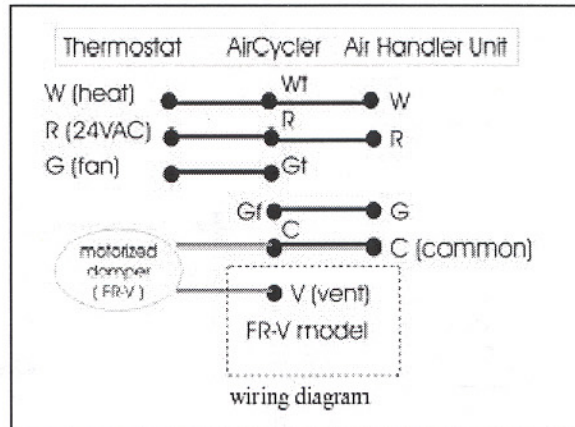

Figure 1. AirCycler™ Wiring Diagram
2. Follow the wiring diagram provided with the AirCycler™ (Figure 1). Make sure the wires to the motorized damper are connected to the "C" and "V" terminals. Be sure to run one "C" wire to the thermostat as well. Any "Y" wires (cooling control) pass through the housing without being connected to any AirCycler™ terminals.
2. Go to the AirCycler™ and press the button with the square on it (the "Mode" Button) once to enter the "Menu" mode (see Figure 1). At this point "Fan On" should be flashing.
Solution	<ol style="list-style-type: none"><li>1. Make sure:<ul style="list-style-type: none"><li>• the furnace has power and the access panel is in place so the safety switch is closed</li><li>• the thermostat is operational</li><li>• the furnace will operate with a call for heat from the thermostat</li><li>• the fan operates with a fan only signal from the thermostat.</li></ul></li><li>2. Confirm the furnace is providing 24VAC to the AirCycler™ (24VAC between the "C" and "R" terminals on the AirCycler™ base).</li><li>3. Verify that all wiring conforms to the AirCycler™ wiring diagram (see Figure 1).</li><li>4. Make sure the AirCycler™ cover is firmly seated in the base, so that all contact pins are touching.</li></ol> <p>If all power and wiring is correct, and the unit is properly seated, the AirCycler™ is likely to be faulty. Contact the manufacturer.</p>